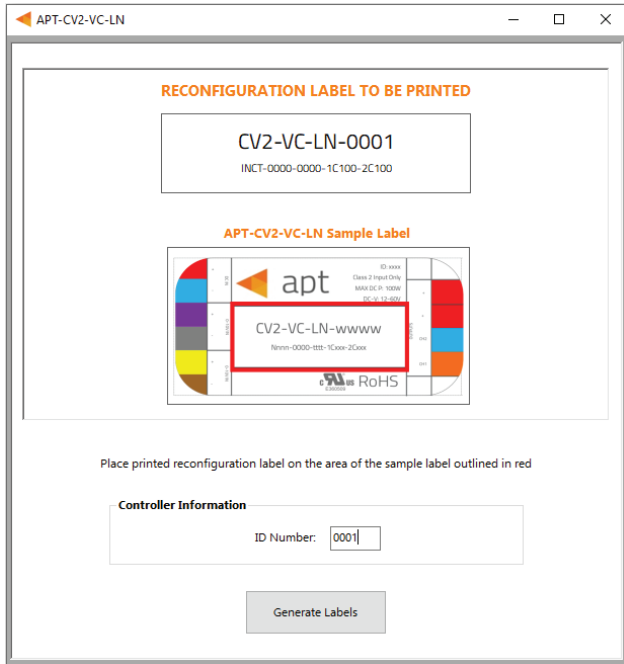

Figure 17: Label Generation window
- 1 Select **File > Generate Label** or press **Ctrl +L** to open the Label Generation window (shown in Figure 17).
- 2 Input the 4-digit **ID Number** written on the original label (shown in Figure 17). The ID Number indicates the production build of the APT Controller.